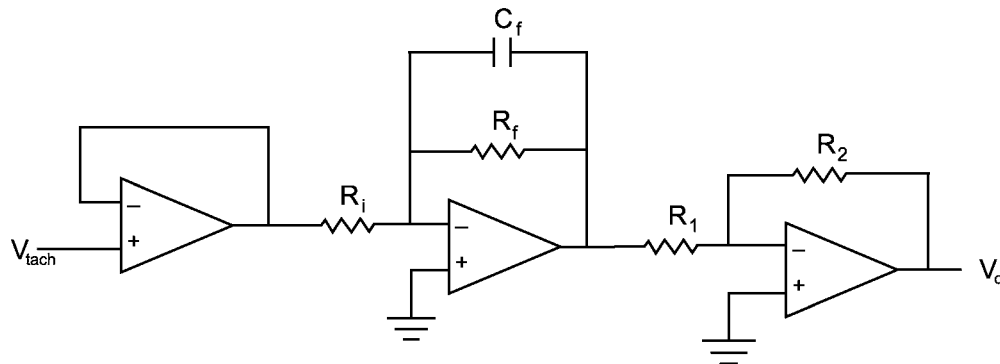

Figure 2: Buffer amplifier filter inverter circuit.
Although the tachometer is a convenient way to measure angular velocity, it does have drawbacks. First of all, the voltage produced by the tachometer must be read by a device with a high input resistance so that the tachometer's output is not altered by an external resistance. In addition, the internal brushes of the tachometer create high-frequency noise as they run along the commutator ring. And the voltage produced by the tachometer is very small at slow speeds and, therefore, usually needs an external amplifier circuit. In light of these facts, it is often wise to buffer, filter, and amplify the signal from a tachometer rotating at low speeds using a circuit like the one shown in Figure 2. Note that the last op-amp in this circuit rectifies the inverted signal from the filter.
16. Design and build a circuit of the form depicted in Figure 2 above that will filter and amplify the signal from the tachometer. Again, make sure that the low pass filter has an appropriate cutoff frequency and the overall gain of the circuit limits the tachometer output amplitude to less than five volts. Record the component values of the circuit below: